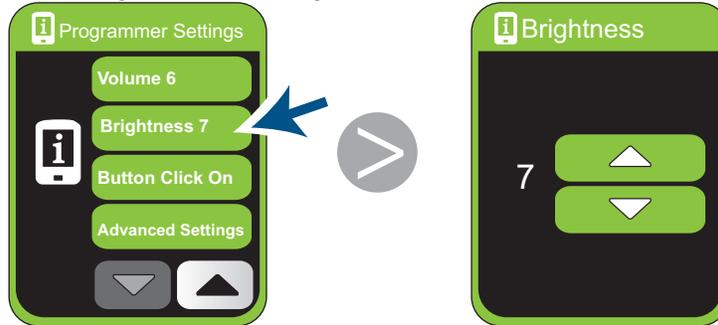

Figure 88. Displaying the Brightness screen
3. Tap **Brightness #** (Figure 88). The Brightness screen appears.